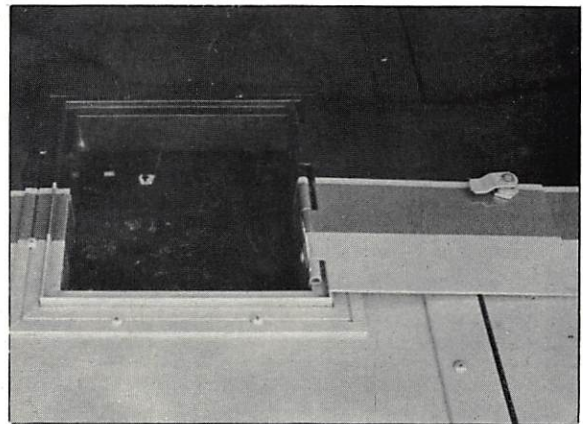

Figure 5-6. Location of Holding Tanks Drain Valve
2. Remove the safety cap from the single discharge connection by turning the locking ring in a counter-clockwise direction and connect the 3-inch sewer hose coupling to the end of the valve. Tighten locking ring securely, in a clockwise direction. The sewer hose is stored within a tube accessible through a compartment door located above the drain cap, figure 5-6. Place the discharge end of the hose into the sewer connection and check that all connections are secure to prevent accidental spillage.